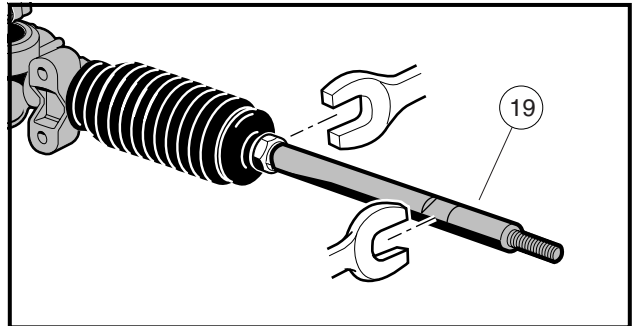

Figure 7-10 Drag Link
2. Remove both drag links (19) (**Figure 7-10, Page 7-7**).
15. Install the two dust seal bellows (10).
16. Install new bellows clamps (wire ties) (11).
18. Install the two nuts (12) and drag links (19). Tighten drag link (19) against nut (12) to 20 ft-lb (27 N·m) (**Figure 7-10, Page 7-7 and Figure 7-20, Page 7-11**).